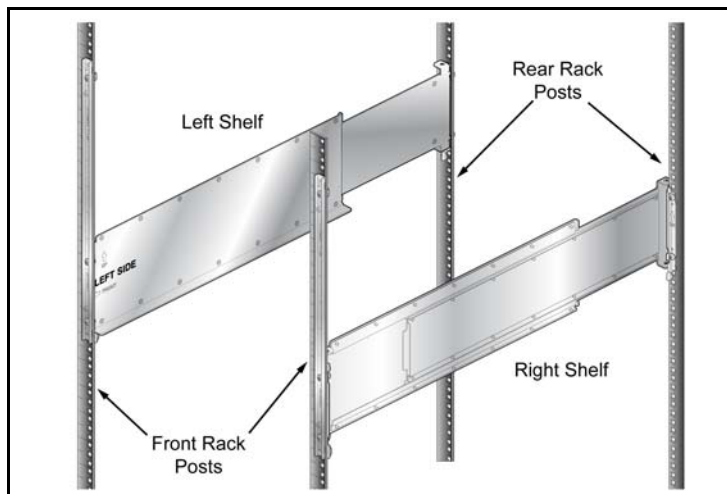

Figure 8: Both Switch Shelves Installed
Step 6 Install the right shelf on the right front and right rear rack posts by repeating step 4 and step 5 to obtain the rack configuration shown in Figure 8.